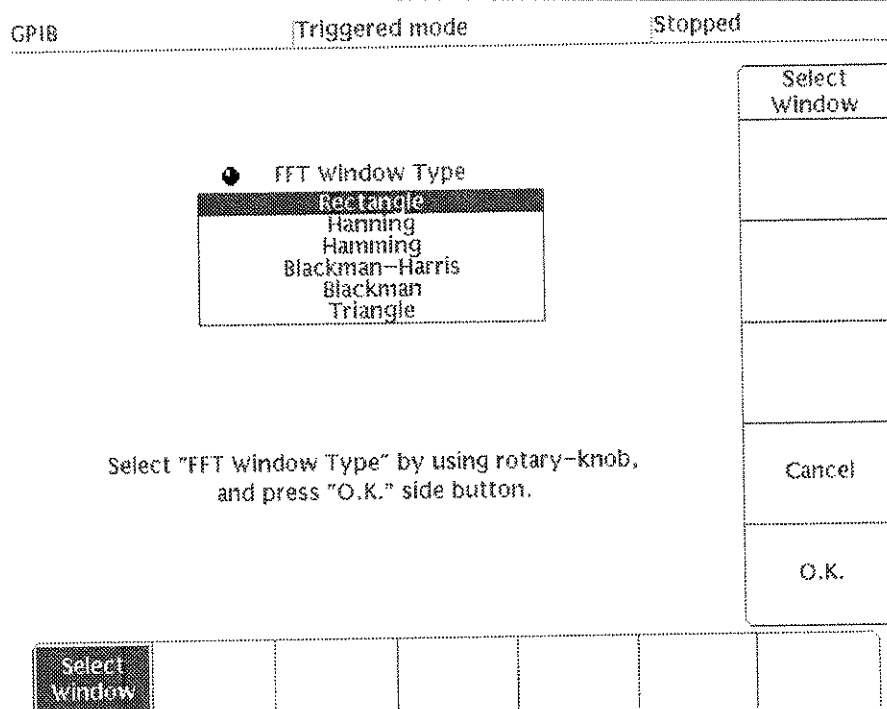

Figure 4A-151: FFT Window Selection Menu
- Step 4:** Select **Edit in Frequency Domain** from the side menu. The menu for selecting the window function is displayed. See Figure 4A-151.